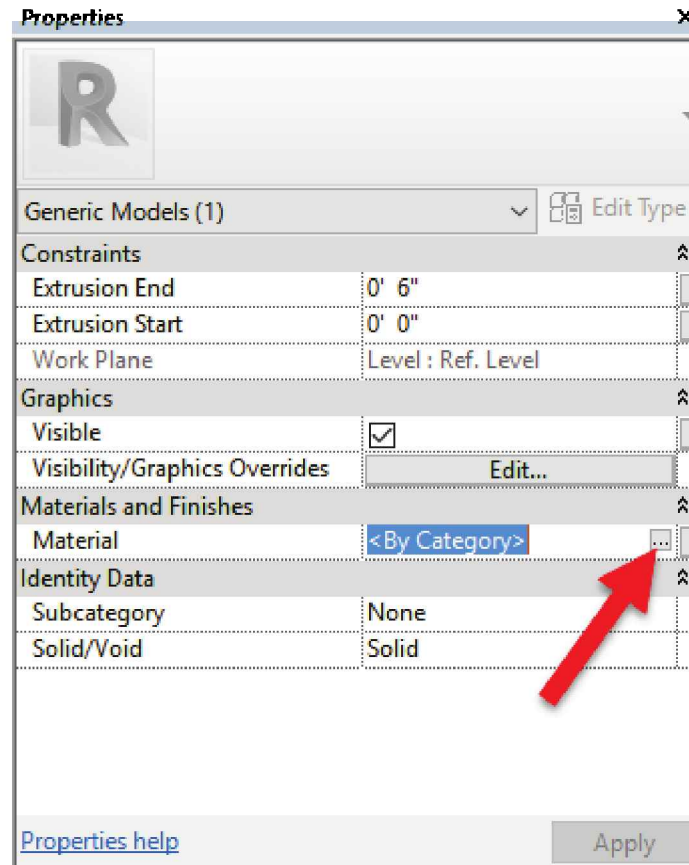

FIGURE 18-4.6 Instance Parameters for 3D geometry
Notice, in Figure 18-4.6, that the *Material* is set to *By Category*. This will be changed to something specific to this *Family*.
15. Click in the cell with <By Category> to reveal the small link button to the right; see Figure 18-4.6.